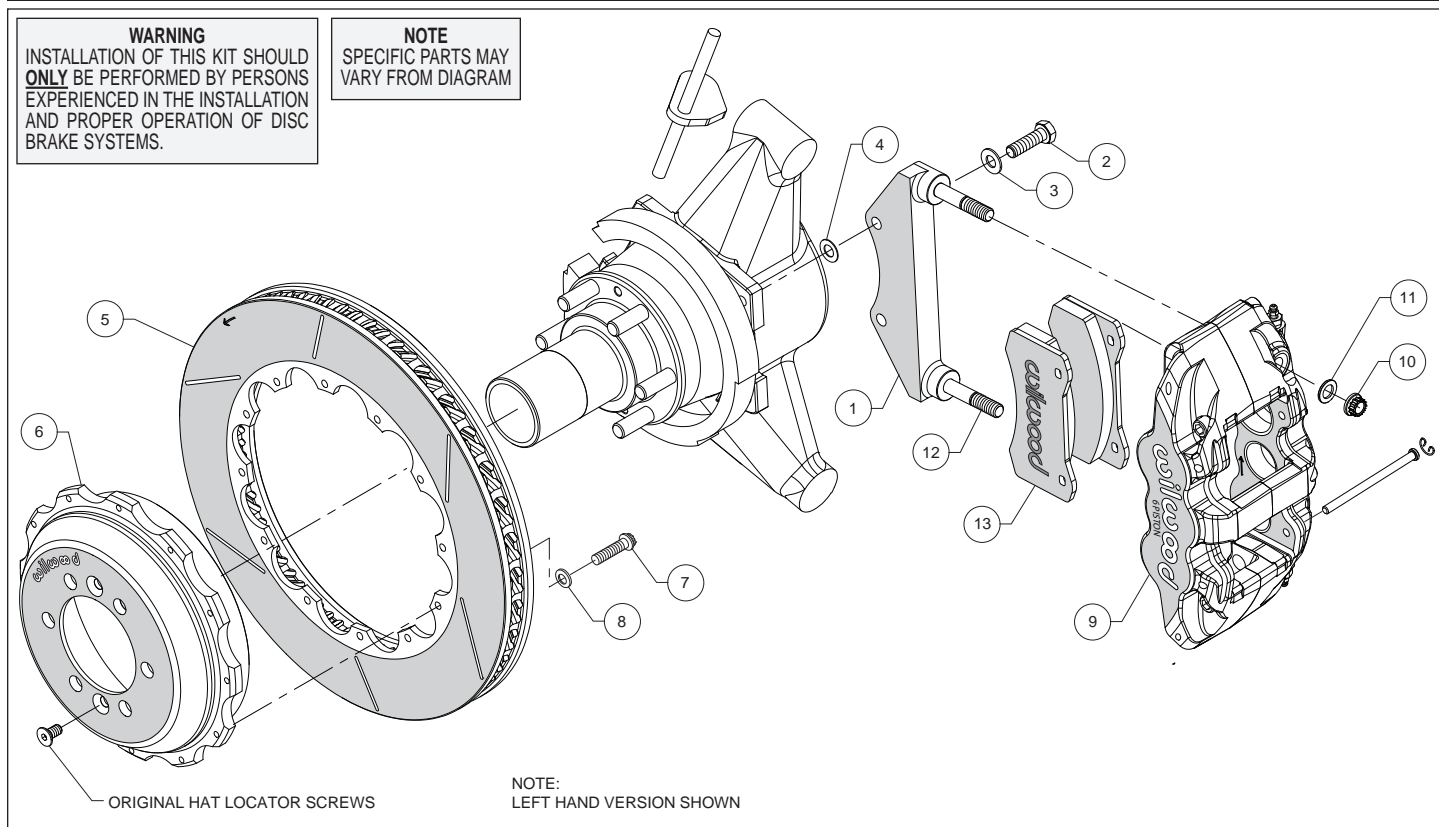
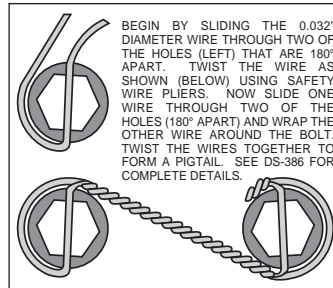

Figure 1. Typical Installation Configuration
Figure 3. Safety Wire Diagram
Assembly Instructions (numbers in parenthesis refer to the parts list and Figure 1 on the preceding pages):
- The caliper mount bracket (1) should initially be installed with clean, dry threads on the mounting bolts. Orient the bracket as shown in Figure 1 and Photo 1, and install using bolts (2) and washers (3). Initially place one .030 thick shim (4) on each bolt between the bracket and upright, Figure 1. Temporarily tighten the mounting bolts. **NOTE:** *The bracket must fit squarely against the mounting points on the upright.* Inspect for interference from casting irregularities, machining ridges, burrs, etc. Later, after the caliper alignment has been checked, the mount bolts will be secured using red *Loctite*® 271.
- Orient the rotor (5) and the hat (6) as shown in Figure 1 and Photo 2. Attach rotor to hat using bolts (7) and washers (8). Using an alternating sequence, apply red *Loctite*® 271 to the threads, and torque to 155 in-lbs. For an added measure of security, the bolts may be safety wired using standard 0.032 inch diameter stainless steel safety wire as shown in Figure 3. Please refer to Wilwood's data sheet DS-386 (available at www.wilwood.com/Pdf/DataSheets/ds386.pdf) for complete safety wire installation instructions.
- NOTE:** *This kit contains distinct right and left hand calipers that must be mounted in a specific direction, as described below.* Lubricate the caliper mounting studs (12) with lightweight oil. Mount the caliper (9) onto the bracket (1) using lock nuts (10) and washers (11), Figure 1. Ensure that the caliper is mounted so the largest pistons are at the rotor exit end of the caliper, in relation to the direction of rotor rotation. Temporarily tighten the lock nuts and view the rotor through the top opening of the caliper. The rotor should be centered in the caliper, Photo 4. If not, adjust by adding or subtracting shims (4) between the bracket and the upright. Always use the same amount of shims on each of the two mounting bolts. Once the caliper alignment is correct, remove the bracket mounting bolts (2) one at a time, apply red *Loctite*® 271 to the threads, and torque to 35 ft-lbs.
- Remove the two pad retaining pins from the caliper (9) by carefully popping out the pin retaining clips and sliding out the pins. Insert the brake pads (13) into the caliper from the bottom, Figure 1 and Photo 5. With the friction material facing the rotor, secure the brake pads in place with the pad retaining pins and clips, Photo 6. Reinstall the caliper onto the caliper mounting bracket and torque the caliper lock nuts (10) to 47 ft-lb.